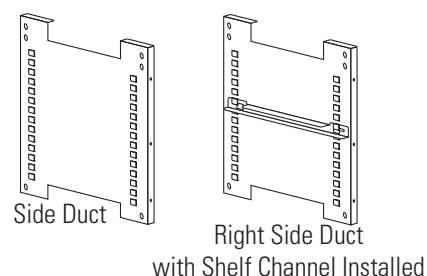

Figure 1-11. Shelf Channels & Side Ducts
the side ducts as they are placed into the chamber so the tops fit into the top air duct, then guide them into the vertical position. Figure 1-11 shows the side duct as it would be oriented for the right side of the chamber.
5. Figure 1-11 shows one of the channels installed on the right side duct.